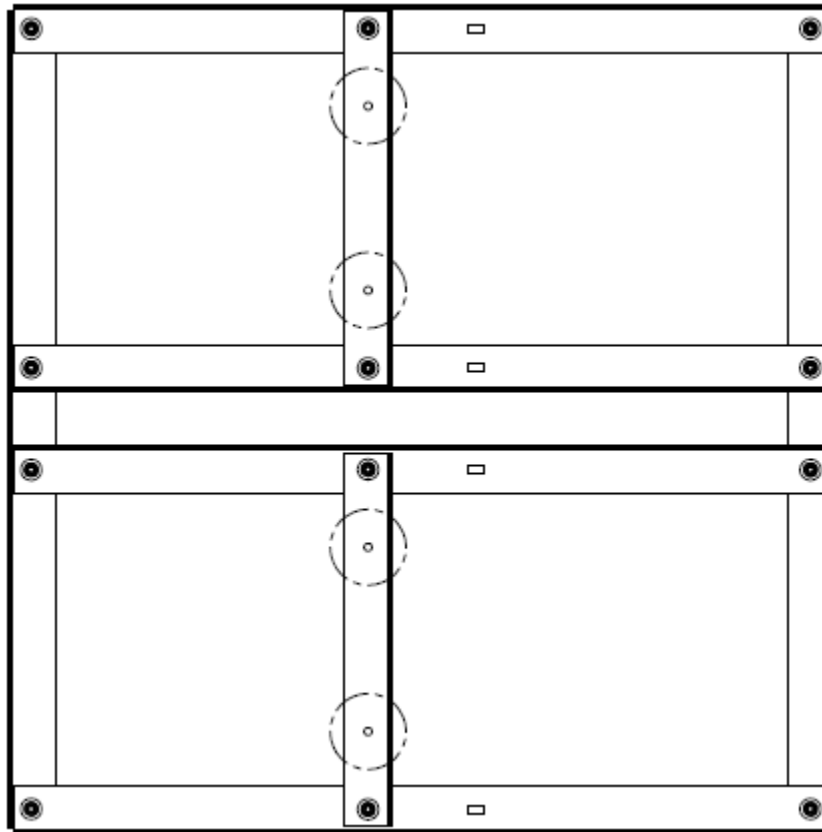

Figure 35: Penetrating fastener mount locations
8. Optionally, if you are using a penetrating fastener, mount the base using appropriately rated fasteners connected to the four locations shown in Figure 35 below.